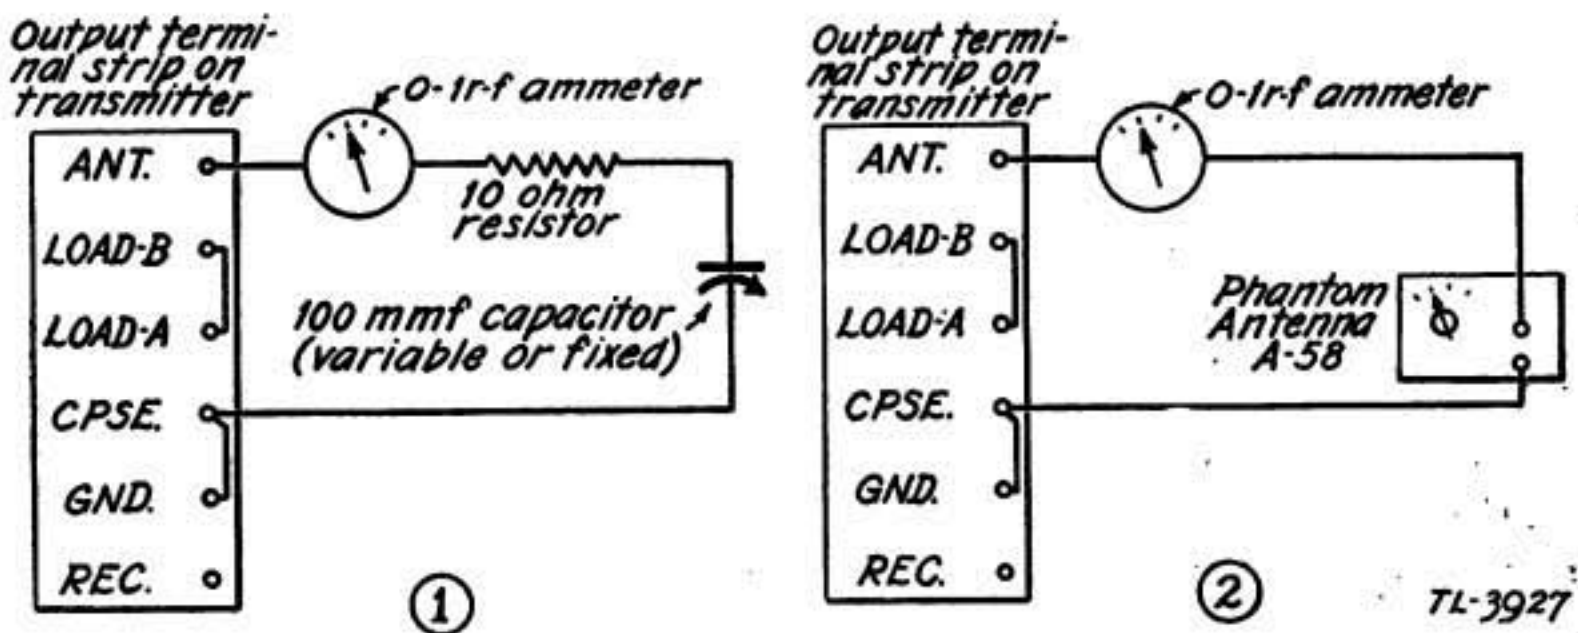

FIGURE 25.—Method of connecting phantom antennas to output of radio transmitter BC-191-(*) .
NOTE.—The capacitor, resistor, and radio frequency ammeter are connected in series, and the combination connected to the ANT. and CPSE. binding posts of the transmitter's output terminal strip to form a dummy antenna load for the transmitter. Terminals LOAD A and LOAD B are connected with a wire jumper. Terminals GND. and CPSE. are similarly connected. Phantom antenna A-58 issued to some organizations, may be substituted for items (3) and (4). In this event, the radio frequency ammeter is placed in series with A-58 (see fig. 25).
- (1) Connect dummy antenna (see note *a* above), in series with radio frequency ammeter, to transmitter (see fig. 25) and connect a shorting wire across the two ammeter terminals.
- (2) Tune up transmitter for continuous wave operation as indicated in paragraph 17, tuning to a frequency near the middle of the frequency band covered by the transmitter tuning unit which is to